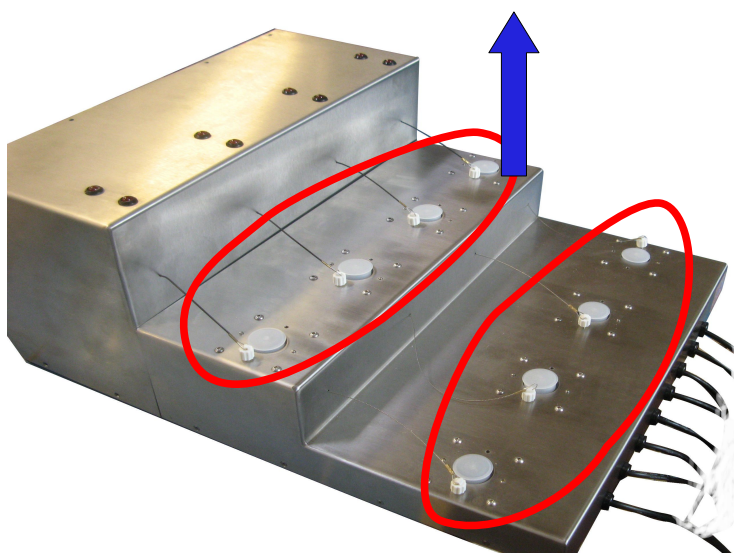

Fig. 12: Remove air pins and caps
- Remove the air pins from the ink trays (Fig. 12). Those pins prevent leaks from the reservoirs during shipment. Also remove the caps from the reservoirs.